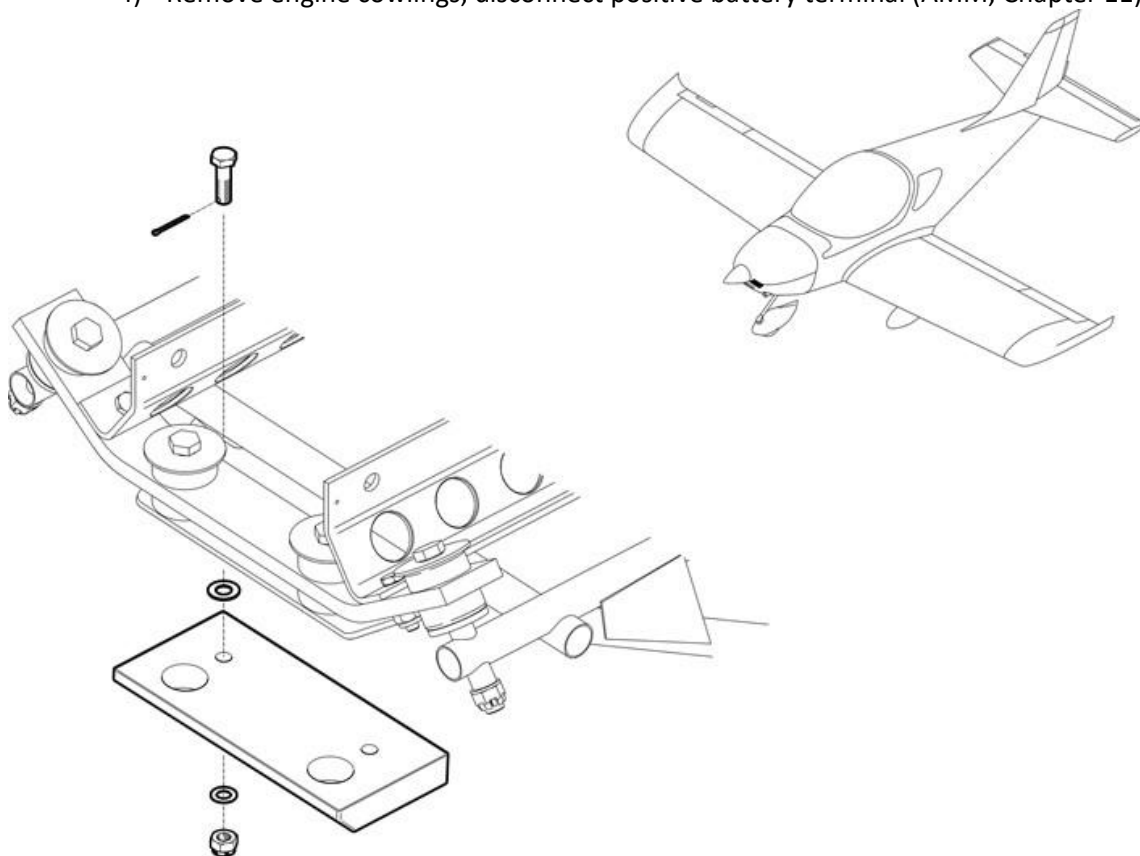

Fig. 1: Ballast weight
- 5) Insert the bolts (002) from the upper side. See Fig. 1.
- 6) Insert the washers (004) from the bottom to the bolts.
- 7) Install ballast weight (001). See Fig. 1.
- 8) Insert the washers (004), screw the nuts (003) and secure it with cotter pins (005).